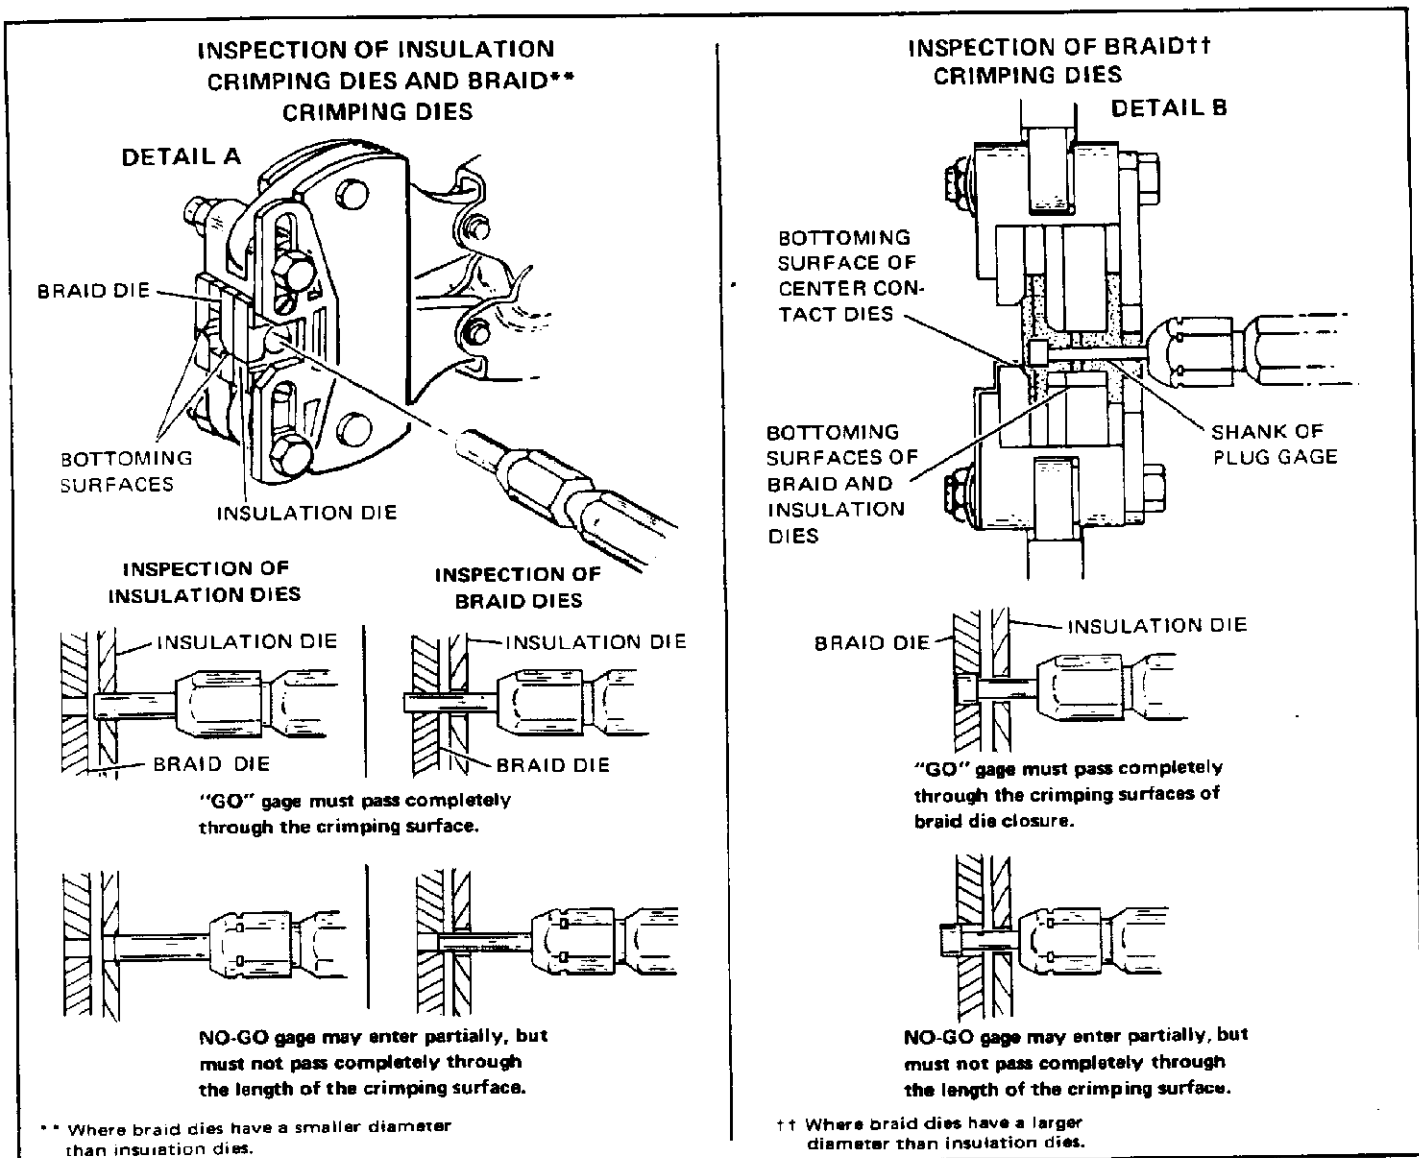

Fig. 8
All A-MP tools are inspected and calibrated before being shipped from the factory, however, since there is a possibility of tool damage in shipment, AMP recommends that new tools be inspected in accordance with Section 3 when received in your plant. Due to the precision design, it is important that no parts of these tools be interchanged except those replacement parts listed in Figure 8.
- Visually inspect the tool for missing pins or retaining rings, then operate the tool and note the return action of the spring-loaded handles. If parts are missing or spring in handles is defective, refer to Figure 8 for customer replaceable parts.
- (c) With crimping jaws bottomed, check the braid and insulation crimp die closure using the proper plug gage. Hold gage in straight alignment with the tool and carefully try to insert, without forcing, the GO element, and then the NO-GO element. See Figure 8, Detail A. The GO element must pass completely through the crimp die closure.
- (e) Tools containing braid crimp dies with a larger O.D. than the insulation crimp dies require a gage of special design. See Figure 8, Detail B.
- (f) To use this gage, open crimping dies and locate end of gage member in the area between center contact dies and braid crimp dies. Shank of member will be located in the insulation die closure. See Figure 8, detail B.
- (g) Close handles of tool and proceed as described in steps (b) thru (d) by pulling gage into braid crimp die closure. Insulation die closure is inspected in the same manner as shown in Figure 8, Detail A.